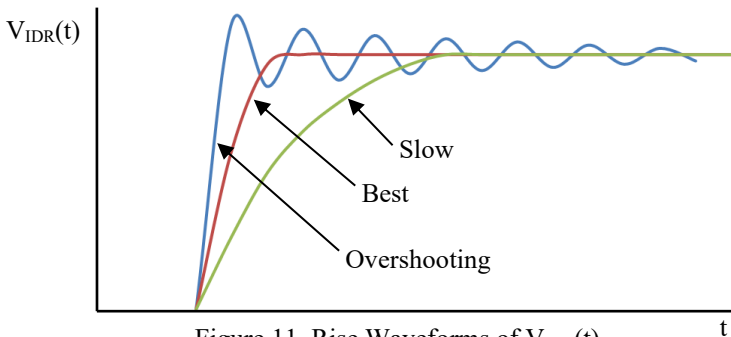

Figure 11. Rise Waveforms of  $V_{IDR}(t)$
2. Set TMS to 2V and tune the compensation network by using S4 to S8 (center bottom). Toggle S3 (lower right) and monitor the waveform at the IDR pin by using an oscilloscope in rolling mode. Tune all the values, CD, RD, RI, RP and CI, to achieve the ideal result in Figures 11 and 12. Make sure, IDR pin's voltage is not saturated to any rails of the power supply. In principle: try to maximize CD, minimize RD, minimize CI, maximize RP, set RI be around 200kΩ to 1MΩ, the lower the better. RD should be about 0.1 × RI, CD about 10 to 100 times CI, RP be about 1 to 5 times RI.